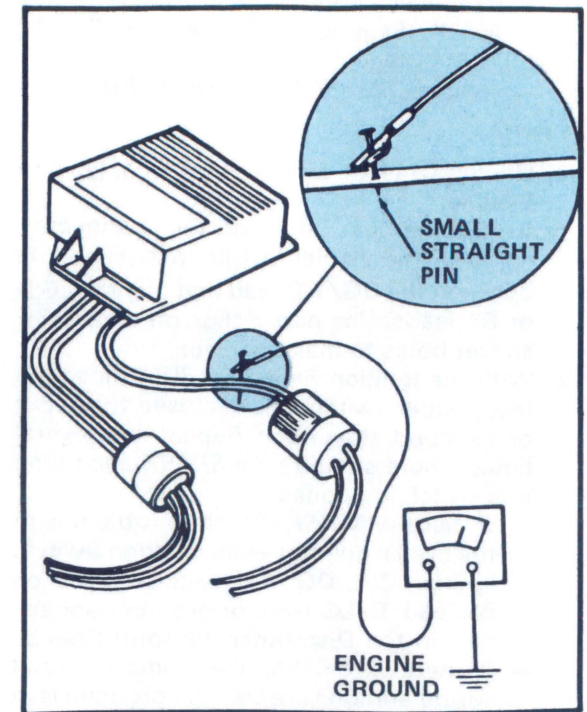

Figure 3 – Pin Test
- Measure **Battery** voltage, and voltage at **W** wire of the module while cranking engine. Use a straight pin to pierce the wire (Figure 3).